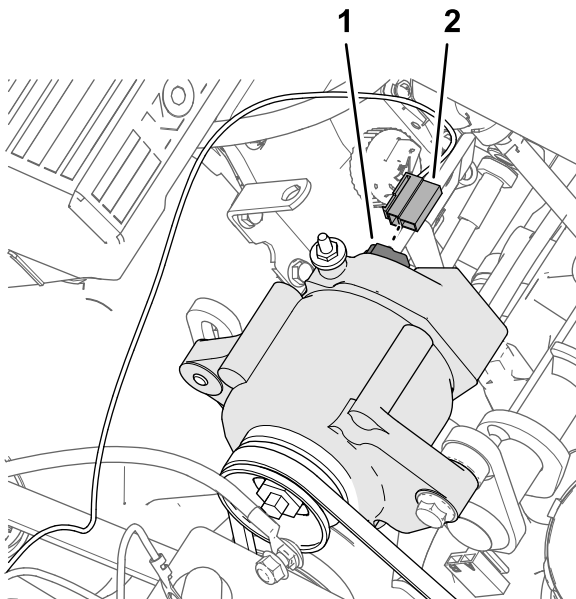

Figure 184
1. Connect the 2-socket at the end of the pink wire 57 cm (23-1/2 inches) of the kit wire harness (Figure 184) onto the 2-pin connector of the alternator (50 A).